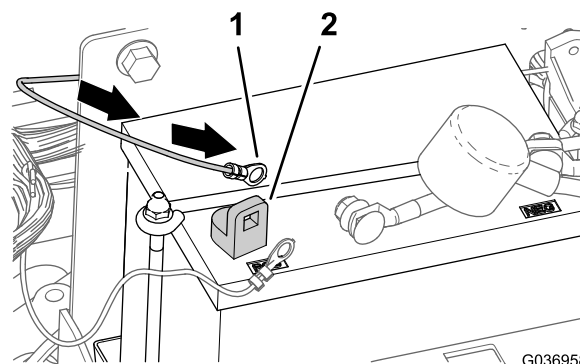

Figure 27
2. Route the harness leg with the ring terminal to the positive post of the battery (Figure 27).